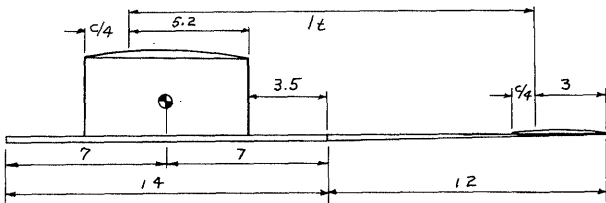

FIG 1
A couple of examples will illustrate the method of using INP. First, let's compute the static margin of a hypothetical model which has been completed and flown, to see how it should have been trimmed. This model will have the following design: constant chord wing and stab with 7" x 25" wing and 4" x 18" stab. Fuselage and tail boom dimensions, plus wing location, will be as shown in Fig. 1. The basic procedure is as follows:
2. $l_t = 17.7$ ". (From Fig. 1, note that l_t is defined (as in CMOS method) as the distance from $C/4_{wing}$ to $C/4_{tail}$. That is from 25% of the average chord on the wing to 25% of the stab average chord. Thus, from Fig. 1 $l_t = 9 + 3.5 + 5.2 = 17.7$).